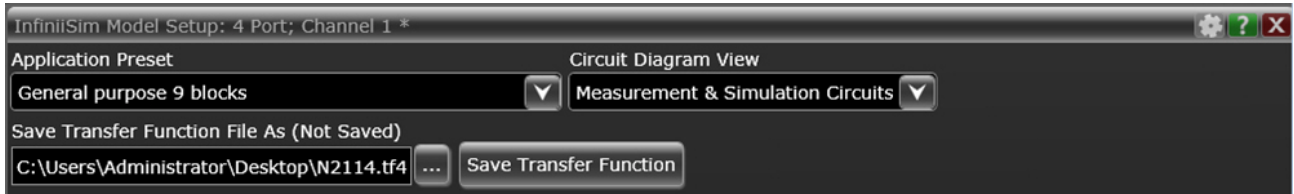

Figure 19 InfiniiSim Model Setup - 4 Port Channel 1- Save Transfer Function
- 6 On the **InfiniiSim Model Setup** screen, select the default configurations for your circuit description from the **Application Preset** drop-down menu (see Figure 19).